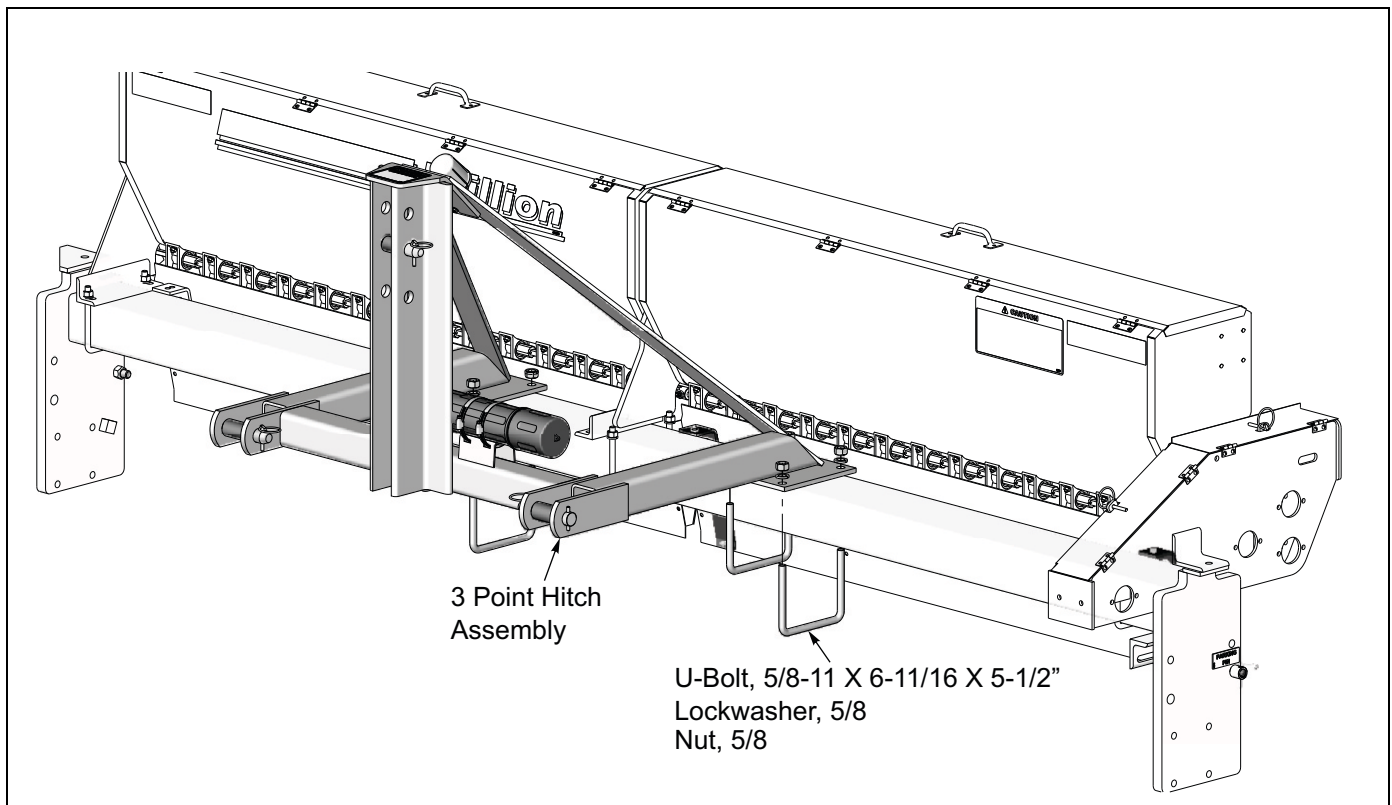

Figure 2-1: Attach 3 Pt. Hitch
2. Position 3 point hitch assembly on center of frame and fasten with four 5/8" U-bolts, Lockwashers and Nuts from bag in seedbox. **See Figure 2-1.**